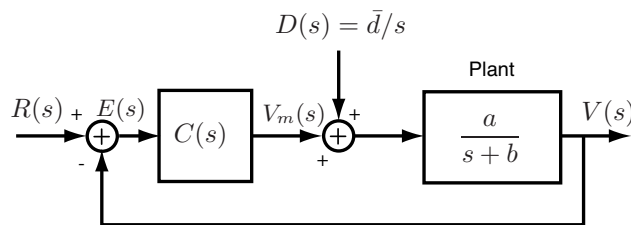

Figure 1: Block diagram of the closed-loop system.
**Problem Statement:** Consider the feedback control system in Figure 1.
1. Referring to Figure 1, verify that the plant has type 0. Hence, in order to meet SPEC 1, you need a controller with a pole at zero. Letting  $E(s) = R(s) - V(s)$ , define the PI controller